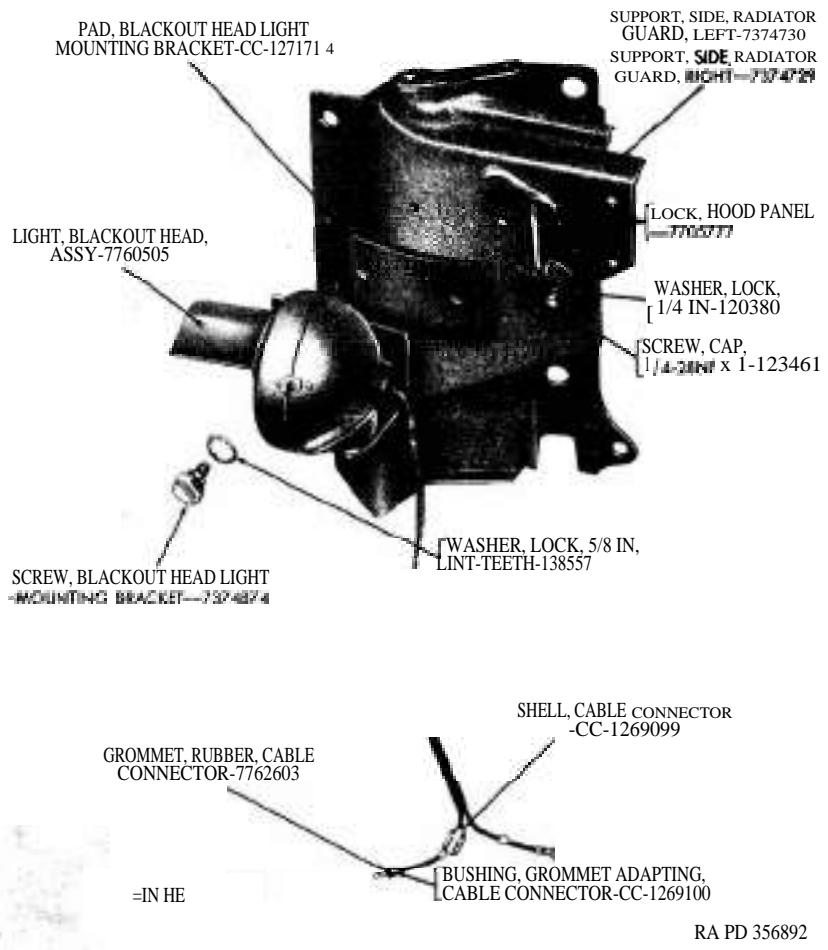
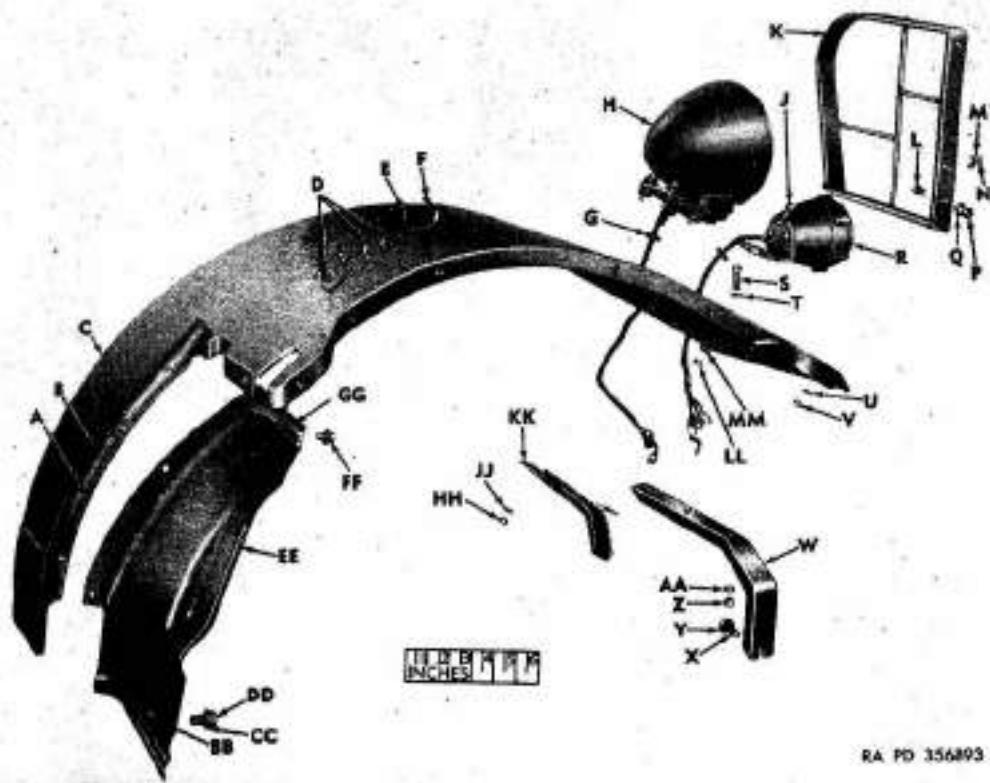

Figure 219. Radiator guard left side support, blackout headlight assembly, and hood panel lock.
Figure 220. Front fender and related parts.
- (5) Remove cable connector rubber grommet (fig. 219), cable connector grommet adapting bushing (fig. 219), and cable connector shell (fig. 219) from blackout headlight cable. Remove cable split grommet (G, fig. 220) from fender and withdraw blackout headlight cable.
- (6) Remove six cap screws and lock washers each side to separate right and left fender splash shield assemblies from right and left front fender assemblies.
- (7) Remove three nuts and lock washers each side ; then remove right and left cable covers (KK, fig. 220) from underside of fenders. Remove service headlight cables
- (8) Remove two cap screws (X, *fig. 220*) and lock washers (Y, *fig. 220*) (each side); this will release each front fender front support (W, *fig. 220*) from radiator support.
- (9) Remove right and left front fender assemblies.
- (10) Remove one cap screw and lock washer (each side), which attach lower front corner of fender splash shield to radiator guard side support. Remove right and left splash shields.
Note. The key letters noted in parentheses are in figure 220, except where otherwise indicated.